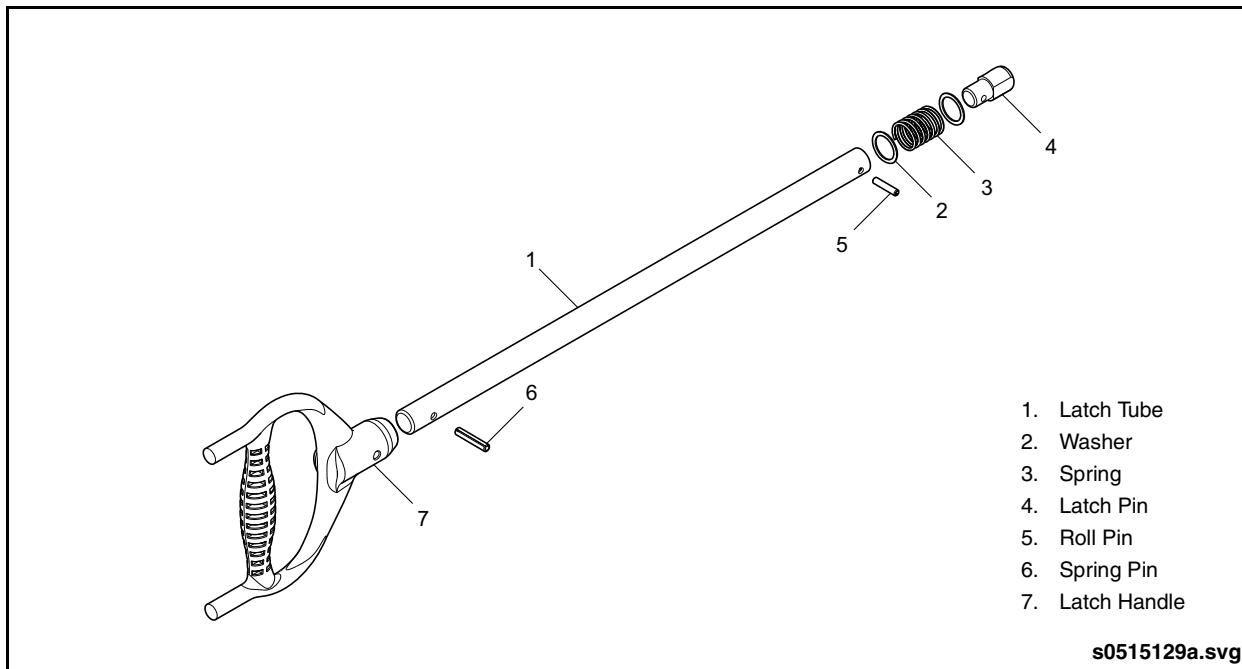

Fig. 13-24: Latch Mechanism Servicing
1. Check the latch handle for damage. Replace if necessary. See "Fig. 13-24: Latch Mechanism Servicing" on page 59.